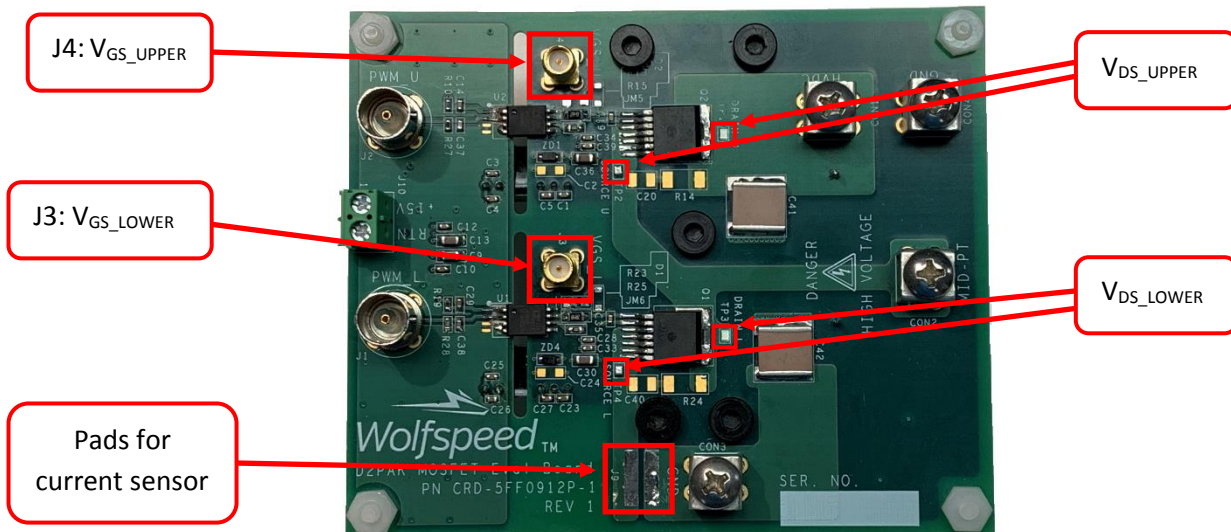
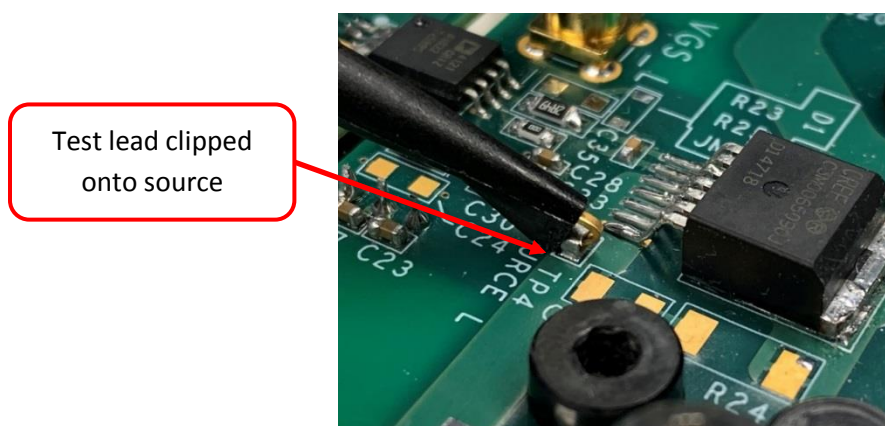

Figure 11. Cree's KIT-CRD-8FF65P/CRD-8FF90P Evaluation Kit test point locations
Figure 13. Test lead clipped on the source (power)
Cree's KIT-CRD-8FF65P/CRD-8FF90P Evaluation Kit comes with many test points (Fig. 11) so that users may capture critical waveforms such as drain to source voltage (VDS), gate to source voltage (VGS), and drain current (ID). It is critical to take these measurements as close as possible to the device pins. On the top side of the evaluation kit's PCB board, there are test loops placed right next to the drain tab and source (power) pins for each MOSFET. The test loop makes it convenient for the users to attach the clip-on probes to the PCB board (Fig. 13).